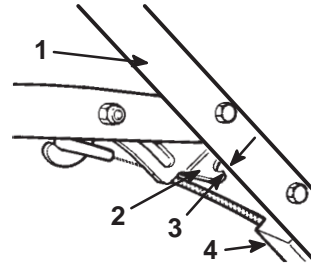

Figure 29
- A. Loosen the nut on the cable bracket (Fig. 29).